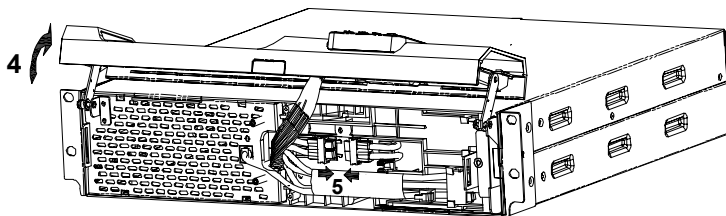

Fig. 14 : Connecting the internal battery
5. Now connect the internal battery system by connecting the two battery connectors (each consisting of a red and a black connector) with each other: red in red, black in black (also see following Fig. 14).